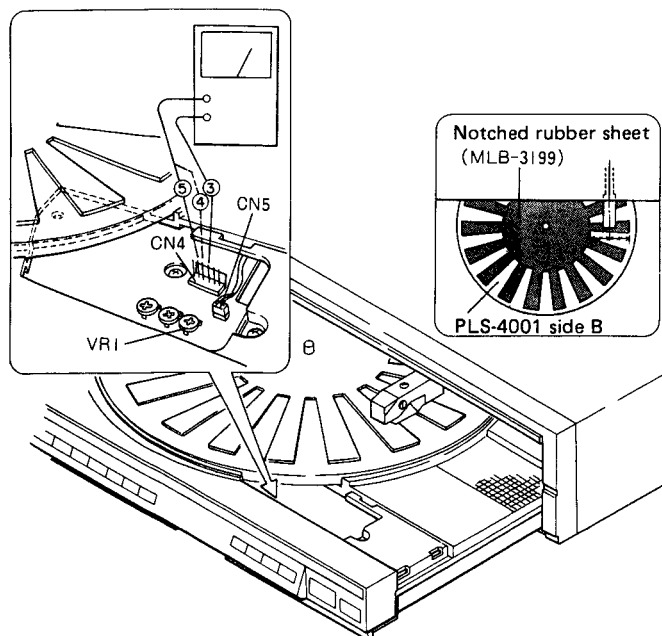

Fig. 12-5 Band Sensor Gain Adjustment
3. Turn on the power and set the speed to 45 rpm. Using the locate switch (  $\angle$  ), move the tonearm over the center of the slits in the notched rubber sheet as shown in figure 12-5.